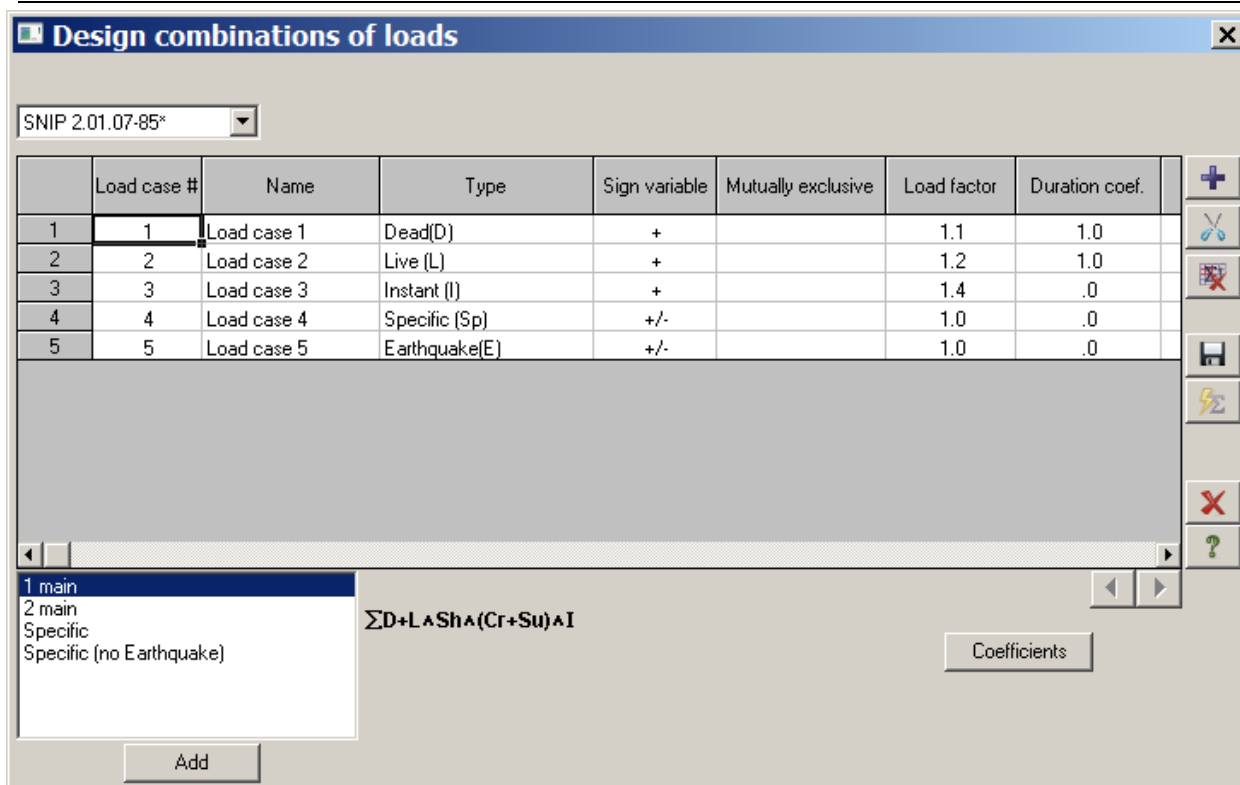

Figure 3.29 Design combination of loads dialog box
- ⇒ In the **Design combinations of loads** dialog box (see Fig.3.29), select building code **SNIP 2.01.07-85*** and for load cases 4 and 5, double-click the **Sign variable** cell and define **+/-**.